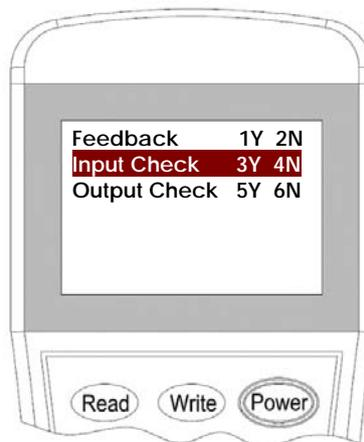

Figure 8
4. Input the **"3"** for Check mode then press **"Write"** to change the setting (Figure 8).